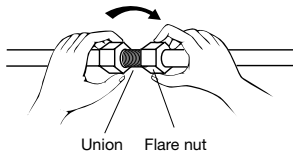

Figure 17
- For proper connection, align the union tube and flare tube straight with each other, then screw in the flare nut lightly at first to obtain a smooth match (Figure 17).